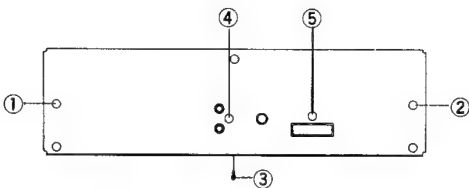

Fig. 2
1. Remove screws ① to ⑤ in Fig. 2, and then remove the rear panel